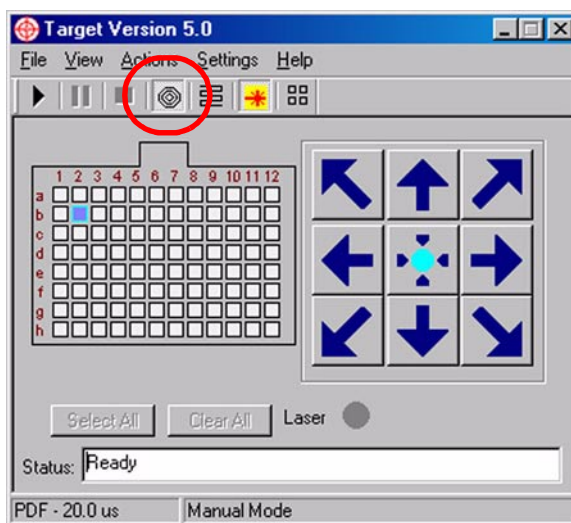

Figure 58 Deselect the Spiral Motion button circled in red
- 3 In the PDF-MALDI Target software, click spot D6 to select it. Deselect the push button for Spiral Motion. See Figure 58.